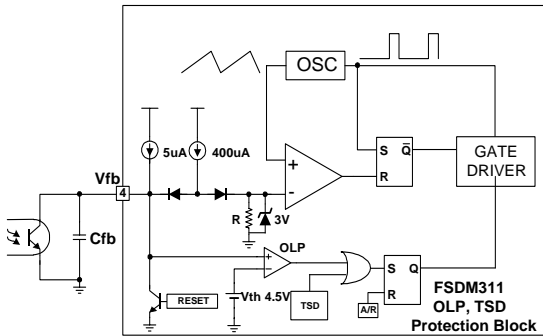

Figure 7. Protection block
4. Protection Circuit : The FSDM311 has 3 self protection functions: over-load protection (OLP), thermal shutdown (TSD) and over-voltage protection. Because these protection circuits are fully integrated into the IC with no external components, system reliability is improved without cost increase. If either of these functions are triggered, the FPS starts an auto-restart cycle. Once the fault condition occurs, switching is terminated and the MOSFET remains off. This cause Vcc to fall. When Vcc reaches the UVLO stop voltage (7V), the protection is reset and the internal high voltage current source charges the Vcc capacitor. When Vcc reaches the UVLO start voltage (9V), the device attempts to resume normal operation. If the fault condition is no longer present start up will be successful. If it is still present the cycle is repeated. This is shown in Figure 7.